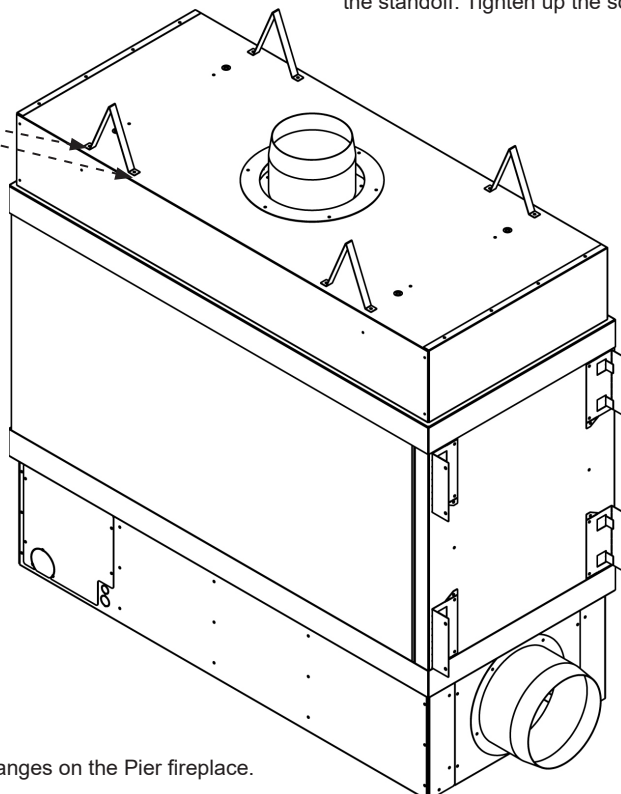

Figure 3A.3
STEP 2: Refer to Figure 3A.2
Fold the center of the standoff up and both ends out at the perforated lines. Using Figure 3A.2 for reference, locate the second pre-installed screw on the firebox top at each standoff location. Remove the screw, pivot the folded standoff into location and re-install the screw to secure the standoff. Tighten up the screw that was loosened in Step 1.